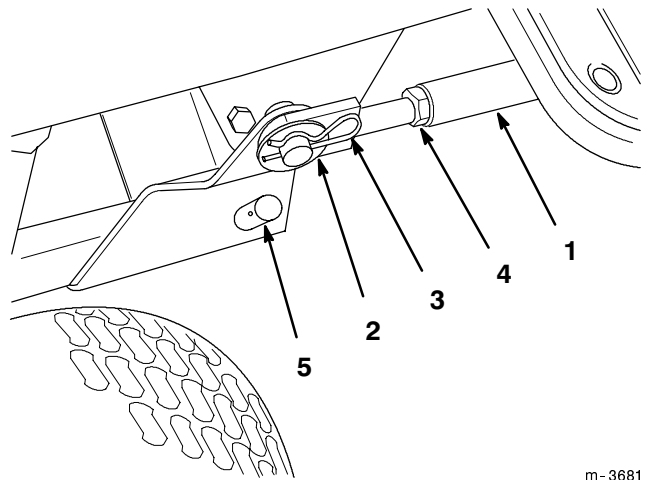

Figure 25
6. Remove the crank support by removing the locking pin at its base (Fig. 25), then lifting the support from its mounting post.
7. Remove the support braces from the frame rods protruding from the mid Attach-A-Matic™ by removing the hairpin cottes and washers (Fig. 25).